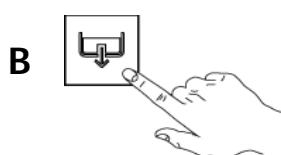

Fig.42
- Press button "B" to start drain out the water and wait until all the water is completely drained out from the tank. (Fig.42)